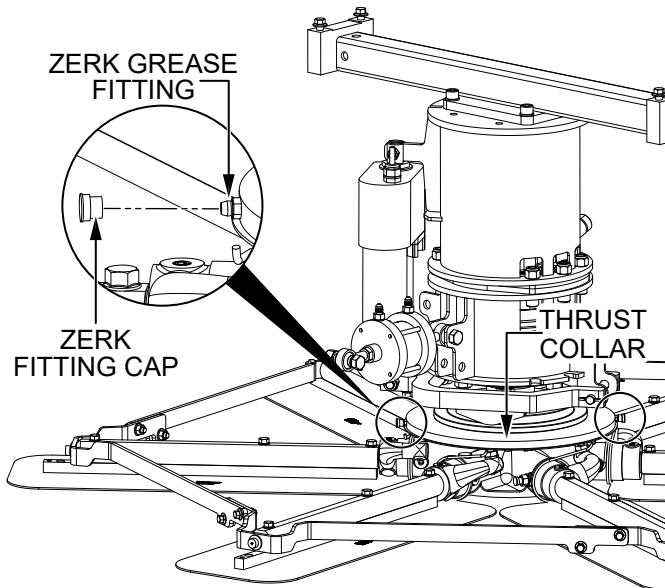

Figure 44. Thrust Collar Lubrication
1. Locate the **Zerk grease fittings (2)** on either thrust collar (Figure 44). Remove the **Zerk fitting caps** and set them aside.